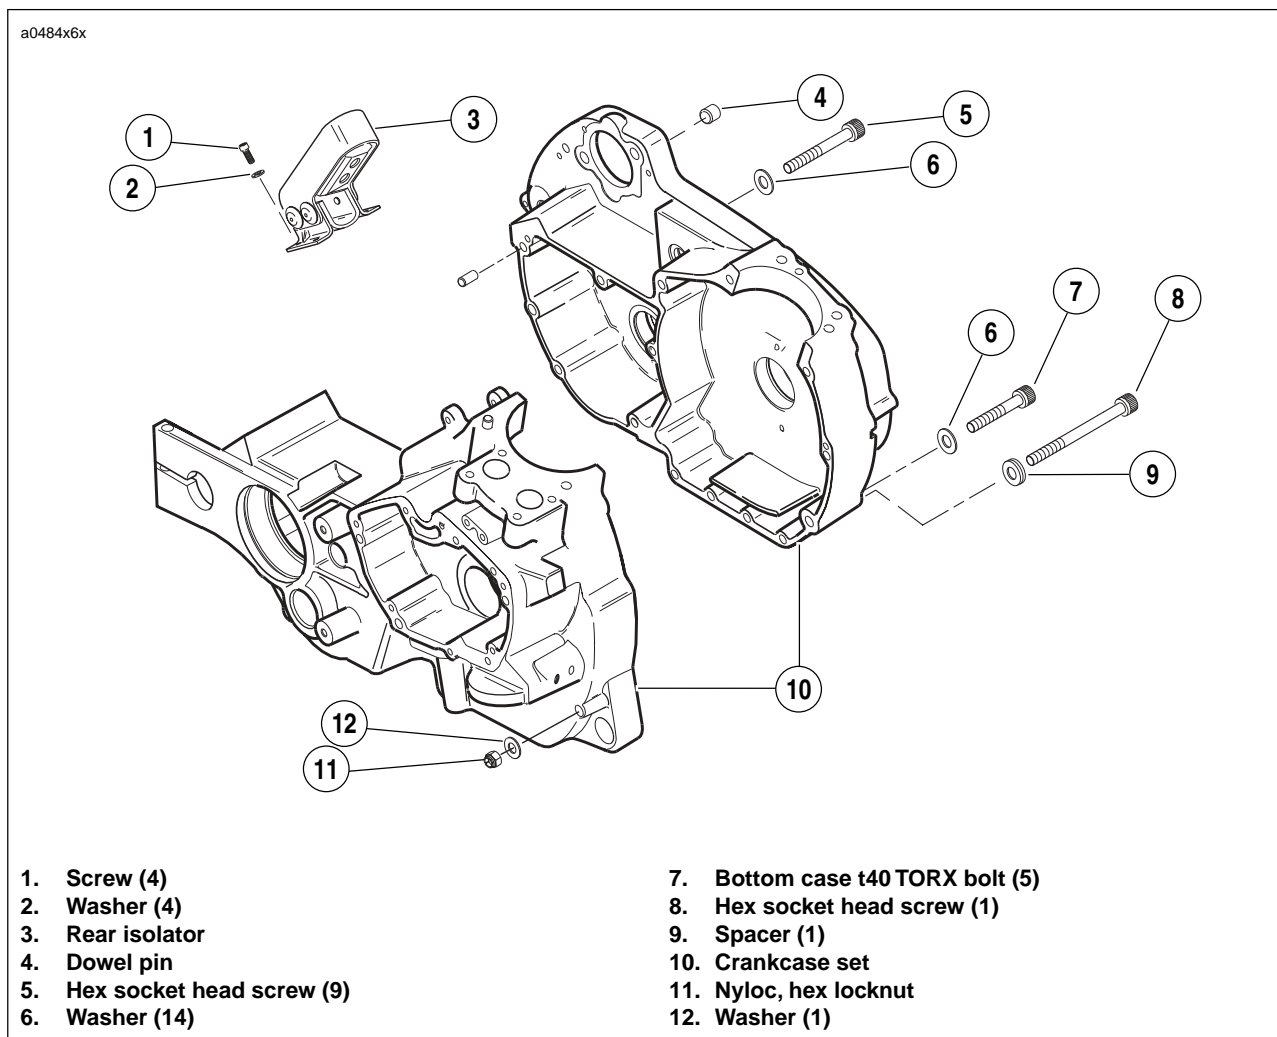

Figure 3-110. Crankcase Hardware
7. See Figure 3-110. Remove screws and rear engine mount bolts securing crankcase halves together.